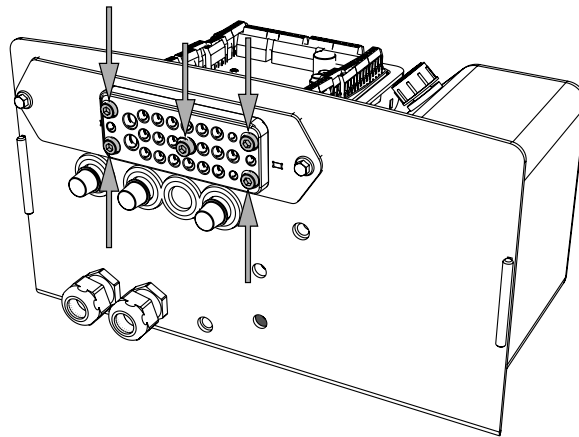

Figure 58. The cable grommet's five screws
1. Loosen the five screws on the cable grommet, see Figure 58. Cables can now be installed/removed/adjusted in the grommet. The cable should be installed together with existing cabling using cable ties.
1. When all cables are suitably located in the cable grommet, tighten the five screws; see Figure 58. Tightening torque: 5 Nm.